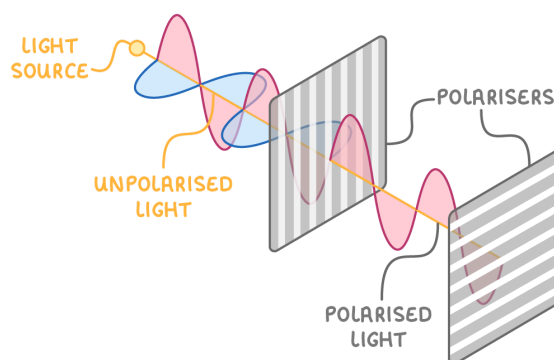

Figure 6.4. Demonstration of the working principle of the polarization experiment
1. Pass laser or ambient light through a linear polarizer as in Figure 6.4.